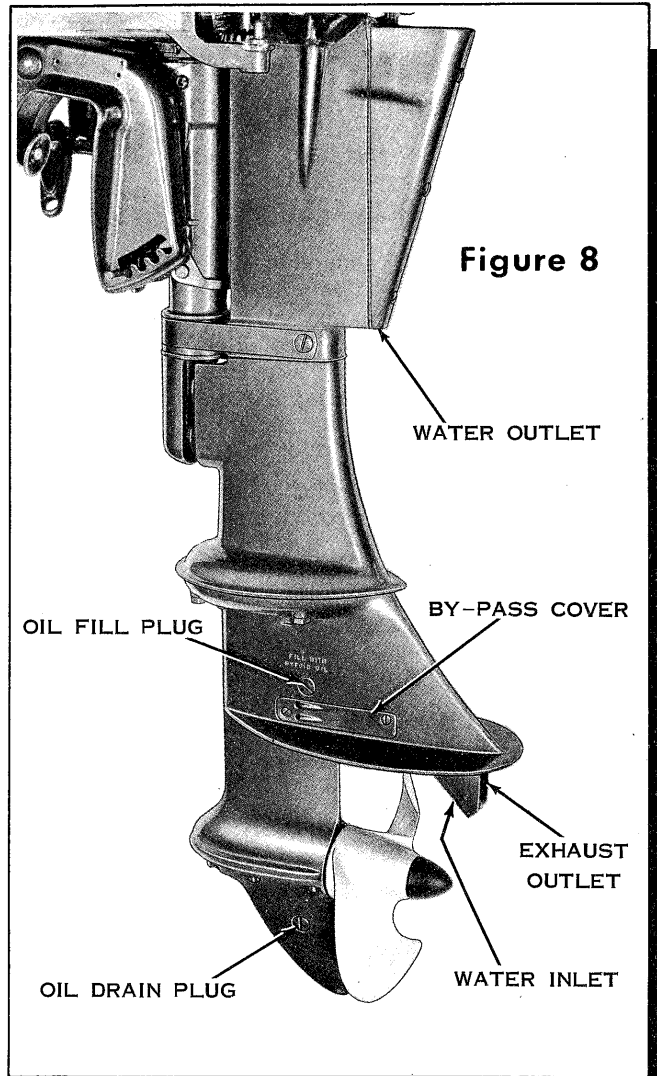

Figure 8
Where a complete change of lubricant is required, remove both the fill and drain plugs (Figure 8) with water in upright position. Drain out all of the oil, water, or residue, replace the drain plug, then fill the gear case through the fill plug with a pump type oil can. Replace plug.
If, while operating motor at full speed, it should show signs of slowing down, immediately check water discharge at water outlet (Figure 8) located at rear of the motor directly below cylinder. In case no water is being discharged, immediately shut off the motor and check water inlet (Figure 8) for obstruction. If no obstruction is found, it may indicate worn pump parts.
3. Remove water by-pass cover (small metal strip on lower port side of upper pump housing, Figure 8).